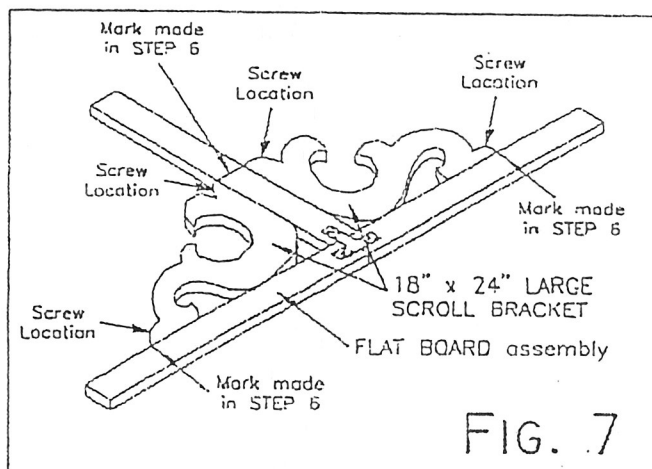

FIG. 7
Push one of the LARGE SCROLL BRACKETS into place lining up the edges of the bracket with the marks made in STEP 6 (Fig. 7). Using two (2) 2 1/2" LONG NIBS SCREWS and a cordless drill attach the bracket to the FLAT BOARD assembly. The location and approximate angle of the screws is indicated by the arrows in Fig. 7. Repeat this procedure for the other LARGE SCROLL BRACKET. Wipe off all excess adhesive immediately.